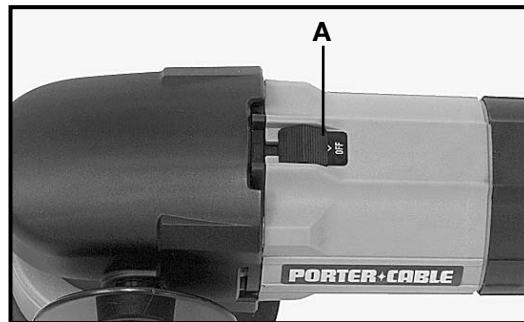

Fig. 2
3. Slide the switch button (A), Fig. 2, forward to start motor. Slide switch button rearward to stop motor.